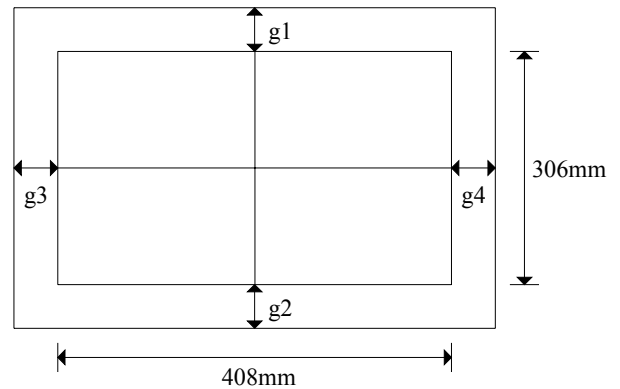

FIG. 2
1.3 Picture position (refer to FIG.2).